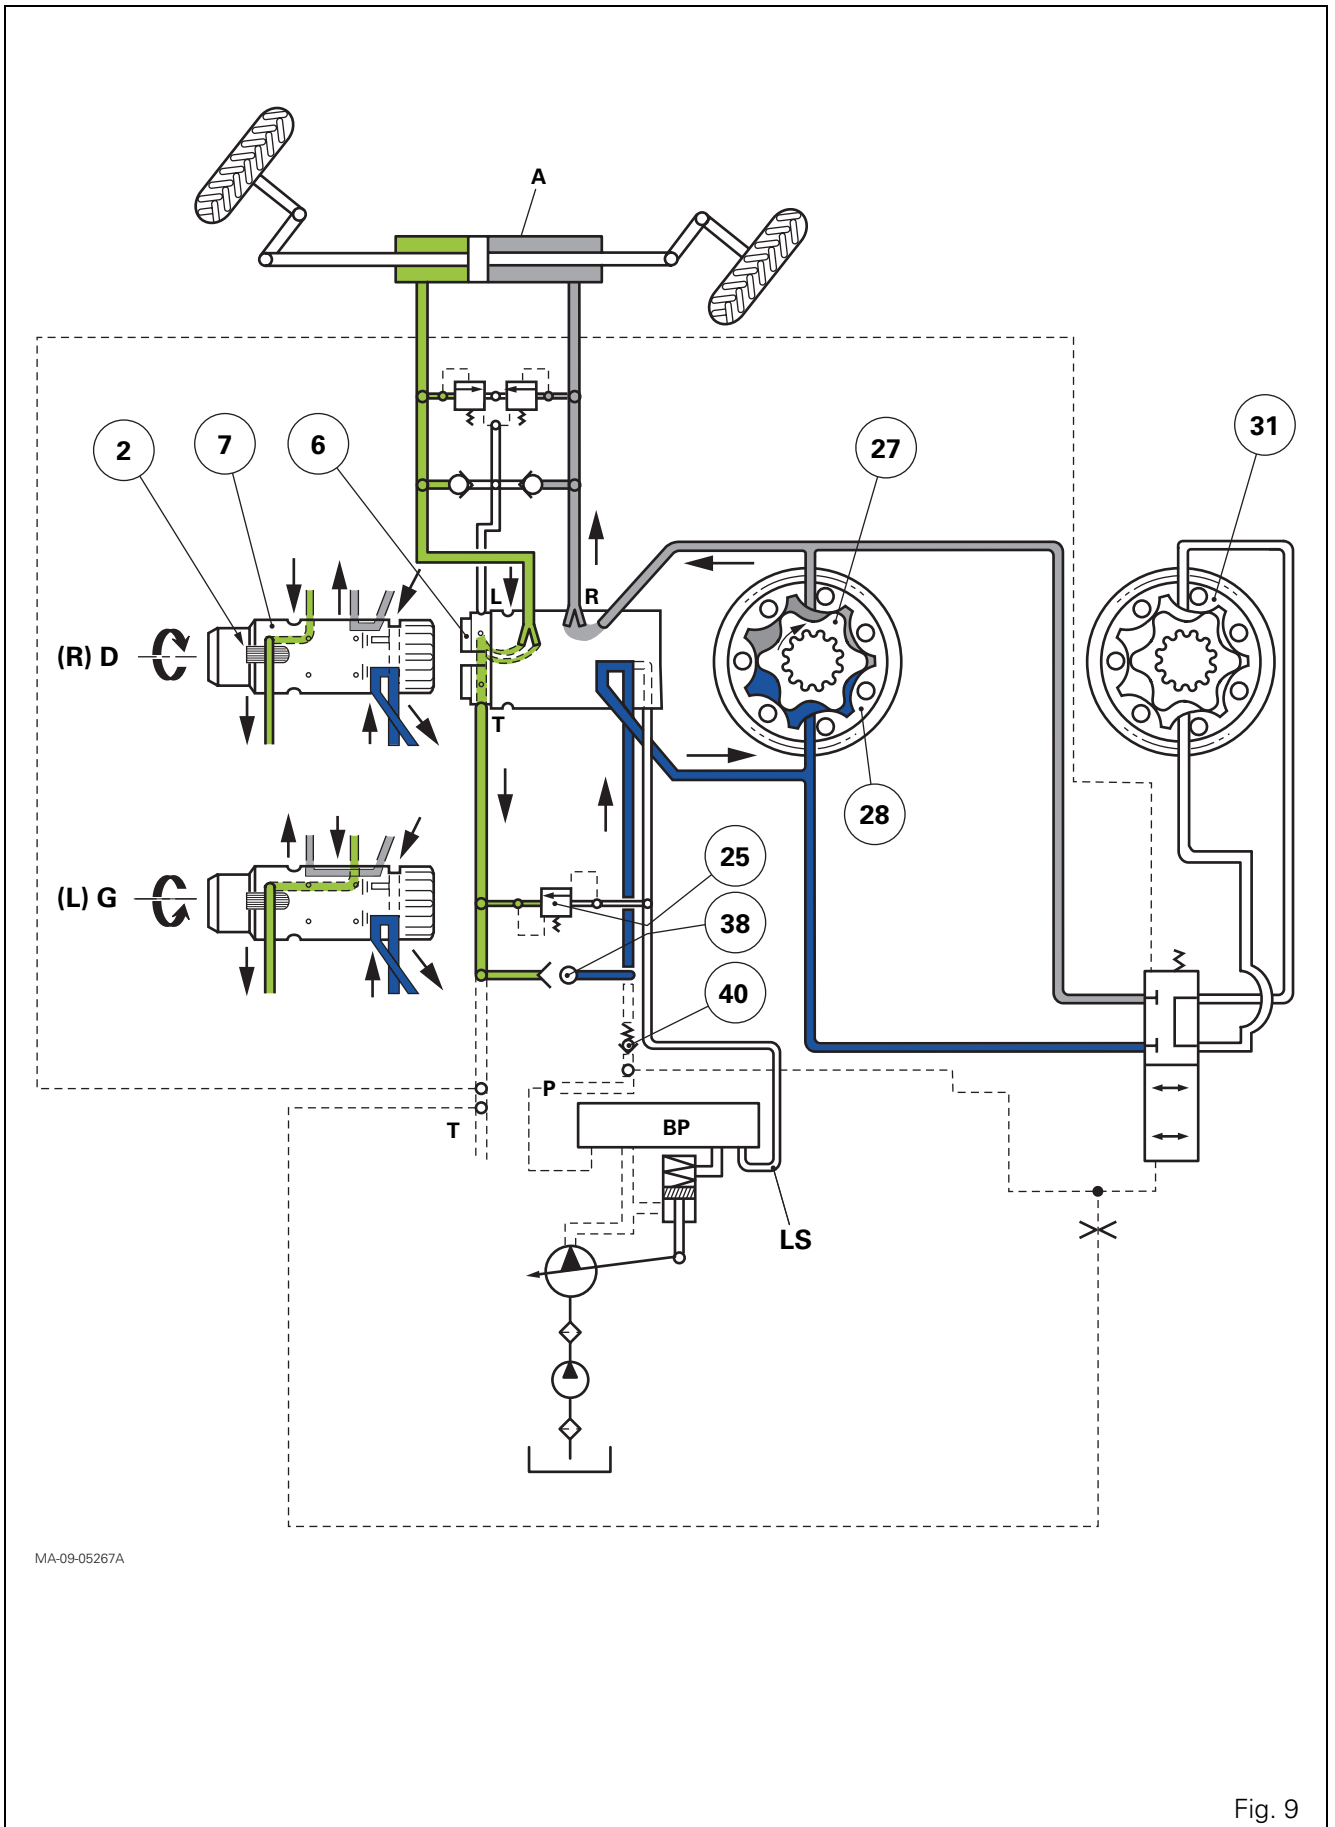

Fig. 9
When the pump is no longer providing pressure or when the pressure is too low (Fig. 9), the rotors (27) (31) are no longer hydraulically driven. It is no longer power assisted.
Legend (Fig. 9)